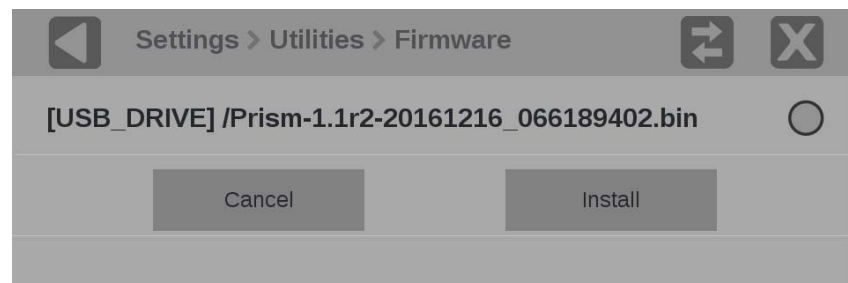

Figure 76: Select the firmware upgrade file
6. Select the file in the list, and then select **Install** to start the upgrade. (See Figure 76.)